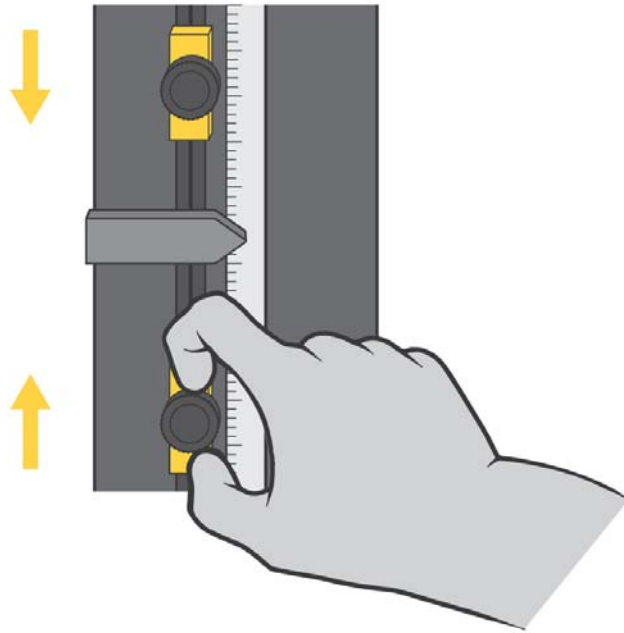

Figure 29. Setting Limit Stops
The crosshead limit stops are two adjustable blocks mounted on the limit switch rod, which is located inside the column of the machine, as shown in Figure 29 on page 117. Limit stops (1 and 2) have thumbscrews that you tighten and release by hand, and you can move them to any position on the limit rod. Position these stops just beyond the test parameters to prevent crosshead over-travel. When the crosshead reaches the maximum pre-set travel, the limit switch actuator (3) contacts one of these stops. Contact between the limit actuator and the limit stop moves the limit switch rod (4) and activates the limit switches. This stops crosshead motion.